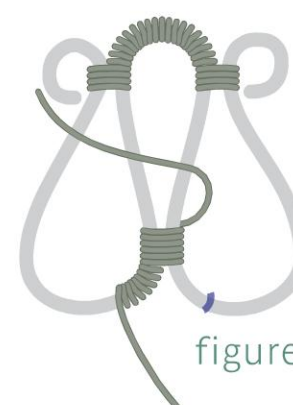

figure 6
**Continue** coiling the 26-gauge wire seven times around the base of one of the loops made in Step 4 (Figure 6).
**Coil** the 26-gauge wire onto the base of the second loop made in Step 4, securing the briolette. Continue to coil up to the bottom of the center coil made in Step 13 until you've made seven revolutions (Figure 6).